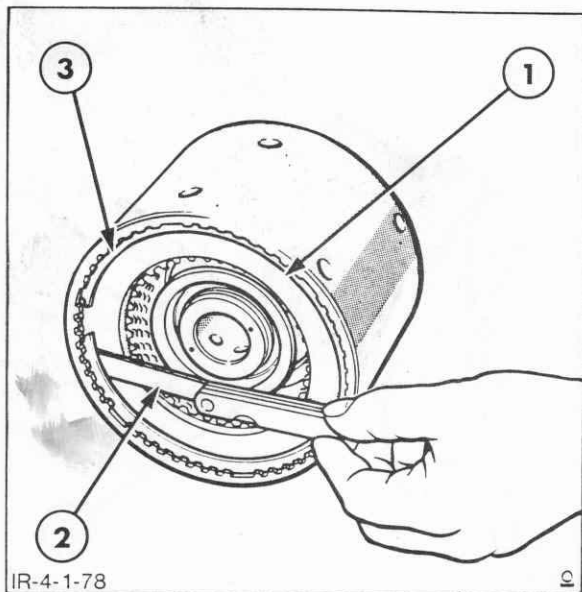

Figure 4-183
3. Inspect the front shaft sealing rings, Figure 4-183, for cracks and wear, and the sealing ring grooves for wear. Install new parts as required, during assembly. Check the shaft oil passages to be sure they are clean.
With the rear clutch pack assembly as previously described, use a feeler gauge to check the clearance between the clutch pressure plate and the snap ring, Figure 4-183, while holding the plate against the clutch disc.